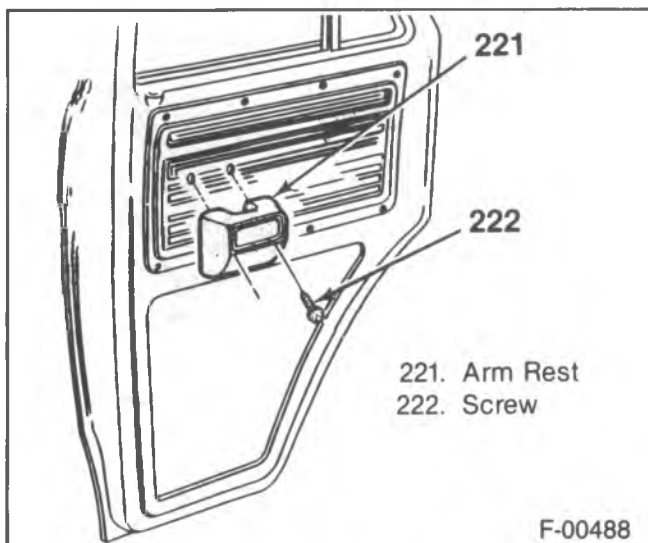

Figure 55—Arm Rest
6. Arm rest (if equipped) (figure 55).
5. Arm rest (if equipped) (figure 55).